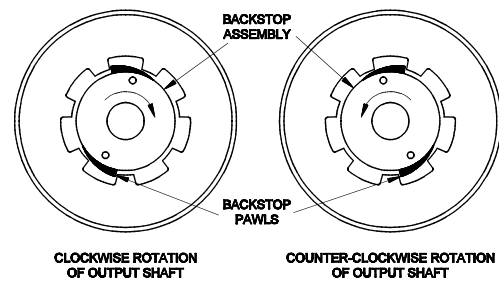

Figure 6.3.4.6—Backstop on Input Assembly
**NOTE:** The desired rotation of the reducer is determined by viewing thru the output shaft side. Reference Figure 6.3.4.6 for orientation of the backstop after being assembled onto the input shaft.